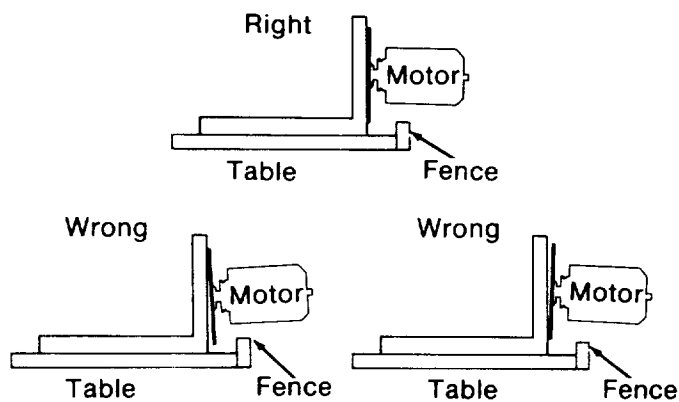

Fig. 94
5. If the square is flush with the *blade* after each rotation (Figure 94), go to step 11, or
If there is a gap between the square and the *blade* after any rotation (Figure 94), go to step 6.